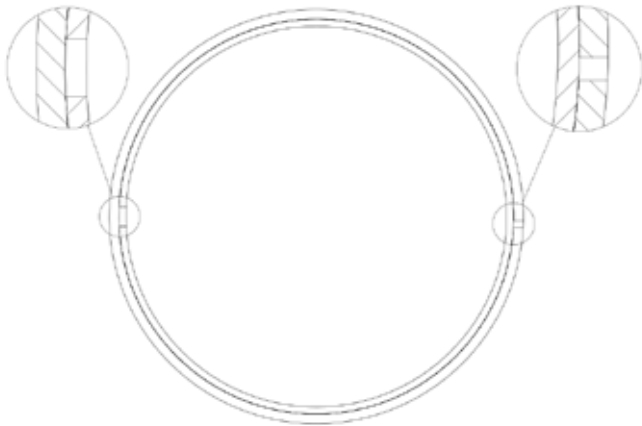

Figure 13 - Piston Ring installation
3. Ensure that the ring cuts are diametrically opposed (180 degrees apart) - (see Figure 13).